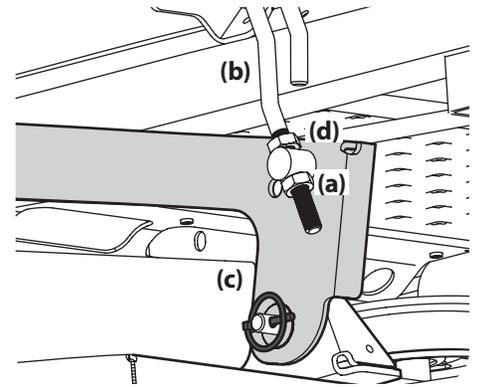

Figure 4-8
3. Loosen the lower jam nut (a) on the adjustable lift link (b) attached to the deck lift arm (c) to lower the deck and tighten the upper jam nut (d) to secure the deck in place, loosen the upper jam nut (d) then tighten the lower jam nut (a) to raise the deck and secure the deck in place. See Figure 4-8.